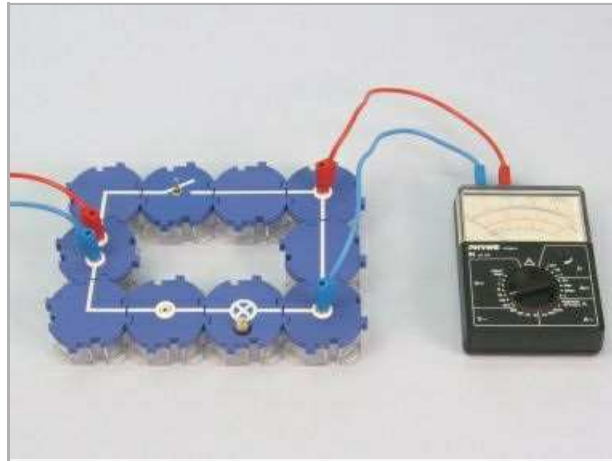

Fig. 6
- Connect the voltmeter in parallel to the connector module (Fig. 6). Note your observation under (Observation 3) in the Report.